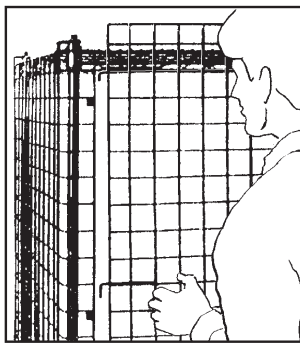

figure 5
Place (7) back panel in position as shown in *figure 5*. Note: 36" units have one panel, and 48" and 60" have two panels. Use the retaining clip that is provided to secure the back panel(s) to all shelves except bottom.